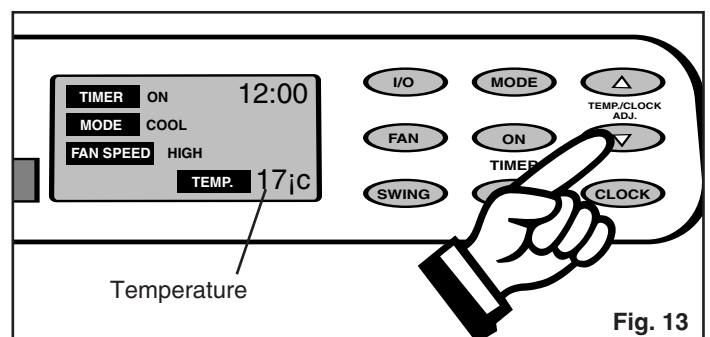

Fig. 13
4) Press the appropriate Δ or ∇ key to select a suitable temperature setting. The temperature selected will be indicated in the **LCD (Liquid Crystal Display)** window. Temperature settings are adjustable between 17°C (63°F) to 30°C (88°F). *Fig. 13.*